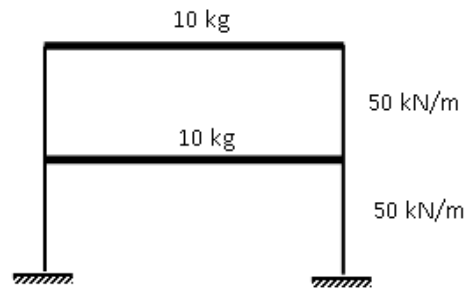

Figure 7
- 2) Calculate the natural frequencies and mode shapes of the two-storey shear building shown in **Figure 7**. Show that the modes of vibration of the above shear building satisfy the orthogonality properties.